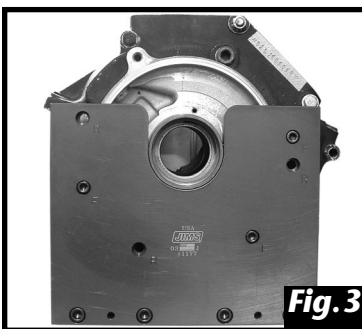

Fig. 3
3. Place the Engine Case in the Cradle and rotate the case so either the Front or Rear cylinder deck is horizontal and facing up. Fig.3